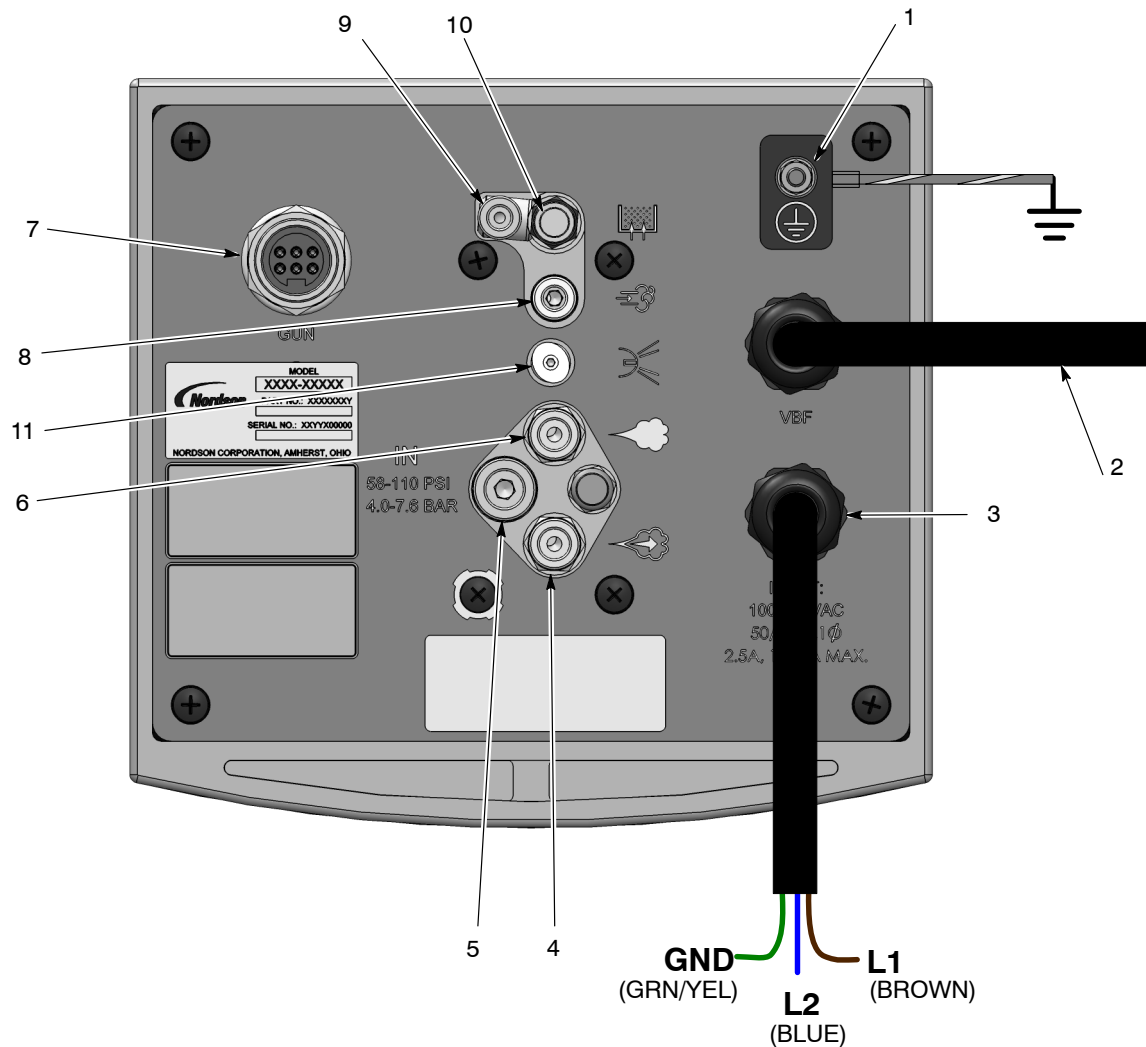
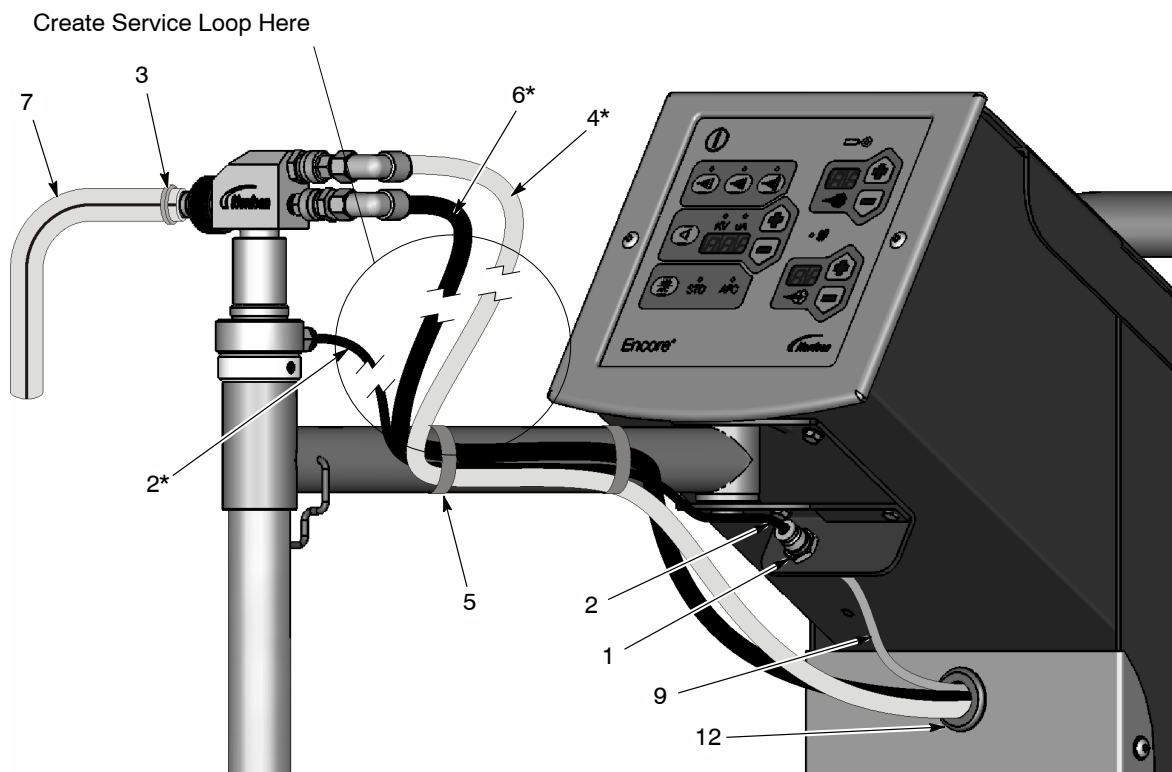

Figure 3-4 Encore LT Gun Controller Connections
Figure 3-8 Encore LT Gun Pickup Tube and Pump Installation
7. See Figure 3-4. Plug the shorter lengths of the tubing into the controller:
- 8-mm blue atomizing air tubing (4)
- 8-mm black flow-rate air tubing (6)
- 6-mm blue fluidizing air tubing (9)
8. See Figure 3-8. Route the tubing (4, 6, 9) through the grommet in the front panel of the cart tower as shown.
- 8-mm blue atomizing air tubing (4) to the pump top fitting
- 8-mm black flow-rate air tubing (6) to the pump bottom fitting
- 6-mm blue fluidizing air tubing (9) to the bulkhead union (1)
- 6-mm black fluidizing air tubing (2) to the union and pick-up tube.
- powder hose (7) to the pump—secure with hose clamp (3)
10. Secure the tubing to the arm with blue Nordson Velcro straps (5).
3. See Figure 3-4. Plug the following into the controller: